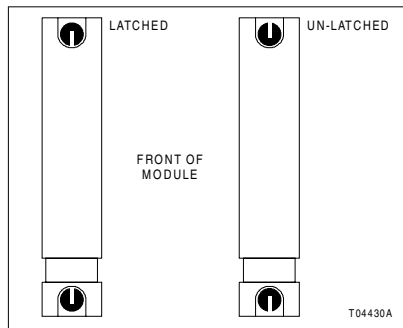

Figure 3-4. Latched and Un-Latched Positions of Captive Latches
5. Push and turn the two captive latches on the module faceplate one half turn to the latched position. It is latched when the slots on the latches are vertical and the open ends face the center of the module. Refer to Figure 3-4.